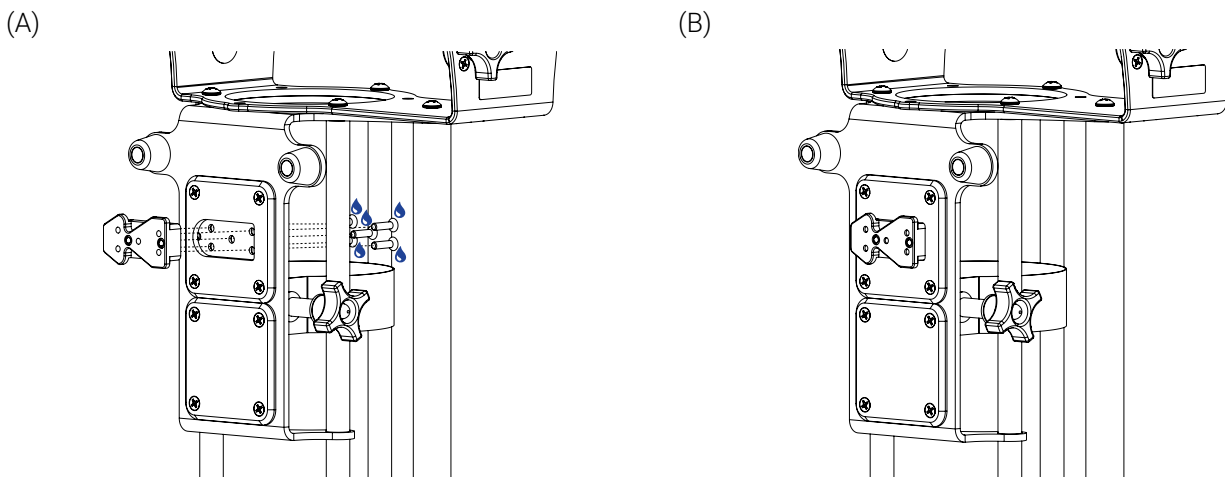

Figure 22: Re-installing the mounting clip
8. Re-install the mounting clip re-using the five (5) screws (previously removed in step 3) coated with medium strength thread lock adhesive, using a Phillips screwdriver #2, and a torque wrench (Figure 22).